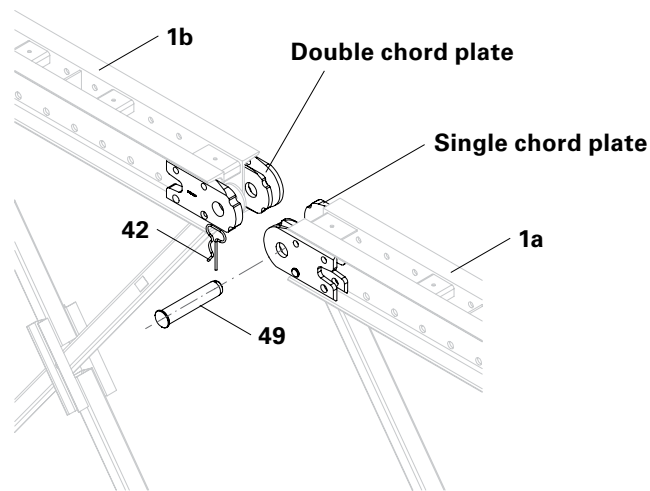

Fig. A1.07
Ensure that the single chord plate is inserted into the double chord plate in the chord plate connections of the top and bottom chords. (Fig. A1.07)
6. Connect the Standard Frames (1a + 1b) using two bolts (49) and secure each with a cotter pin (42). (Fig. A1.07)